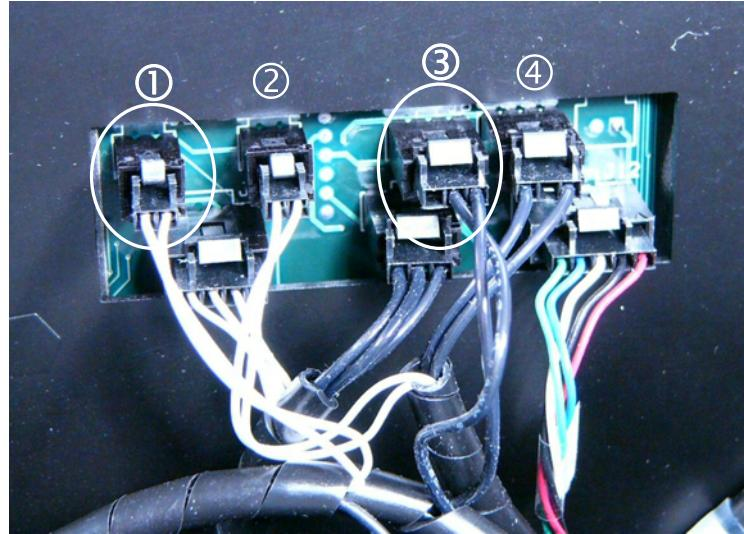

Figure 9: Heater wires on rear wall of reader: disconnect **1** and **3** in the top row
- Reconnect the two heater wires to the rear wall of the reader: the white wire fits into position 1 in the top row of wires; the black wire fits into position 3 (see Figure 9).